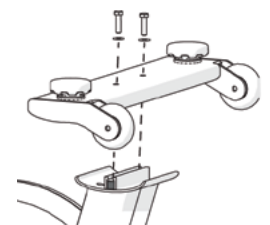

Figure 4
3. Attach the front stabilizer to the frame using two bolts **1** and two flat washers **2** (Figure 4) Using a hex key **5**, tighten to 15.6 ft-lb (21.2 N-m).